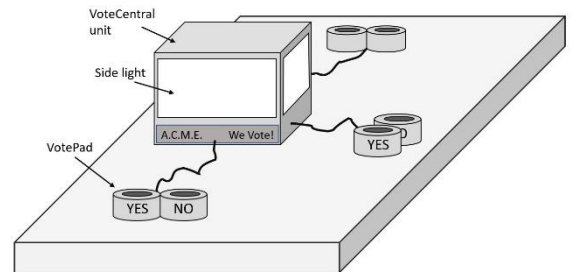

Figure 1: WeVote concept image.
The VoteCentral is the main component of the system, which is the box shown on the middle of the table in Figure 1. This component does the I/O processing using an FPGA (a rather cheap one with limited LEs, but clients don’t need to know that). The VoteCentral and other parts and operation of the system is further refined in the points below; read over this information and respond to the queries that follow.
- Side lights x 4: These are the rectangles on the sides of the WeVote indicated in Fig. 1. Behind these there is a red, a blue and a green LED. These are controlled by an array of ports *sl_red[3:0]*, *sl_blue[3:0]*, *sl_green[3:0]*. Sure, you can activate more than one LED in a side light at the same time, e.g. setting *sl_red[0]* and *sl_green[0]* to high and *sl_blue[0]* to low will cause the first side light to glow yellow.